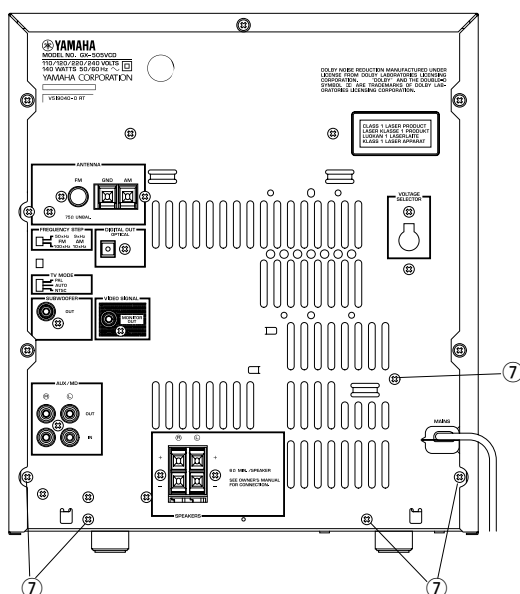

Fig. 6
6. Operation Check of Main P.C.B. (1)
- Remove 5 screws (⑦) in Fig. 6.